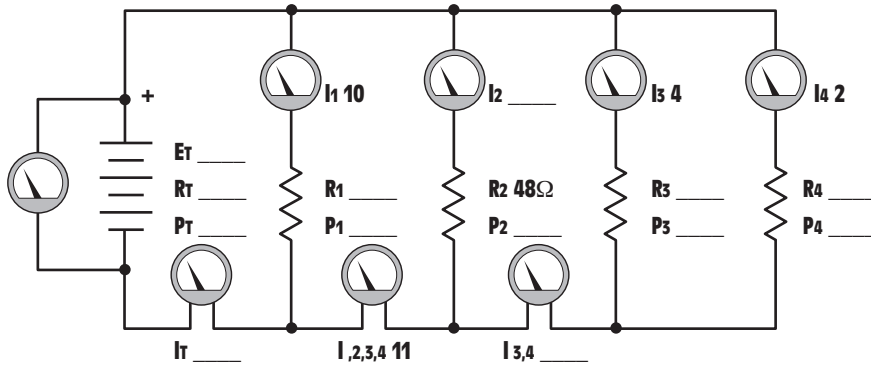

Figure 6-33 Practice Problem 8.
8. Find the missing values in the circuit shown in *Figure 6-33*.